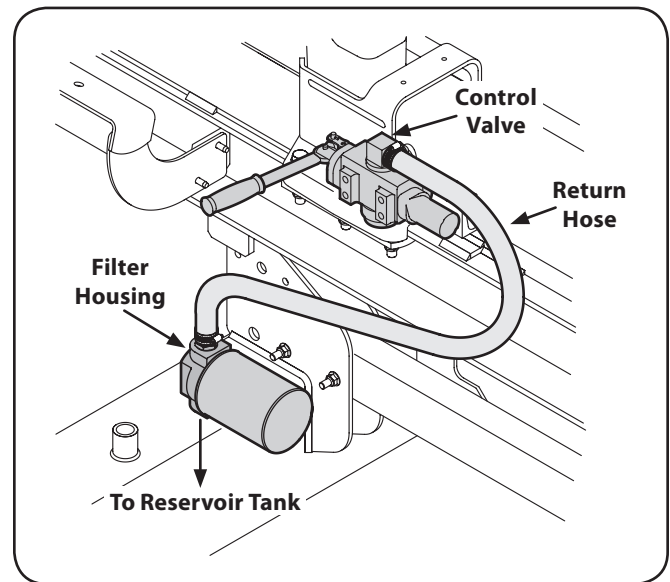

Figure 3-10
3. Attach the end of the hose to the fitting on top of the filter. Place the hose clamp at the base of the fitting, tighten securely and cut the zip tie securing hose guard. See Fig. 3-10.